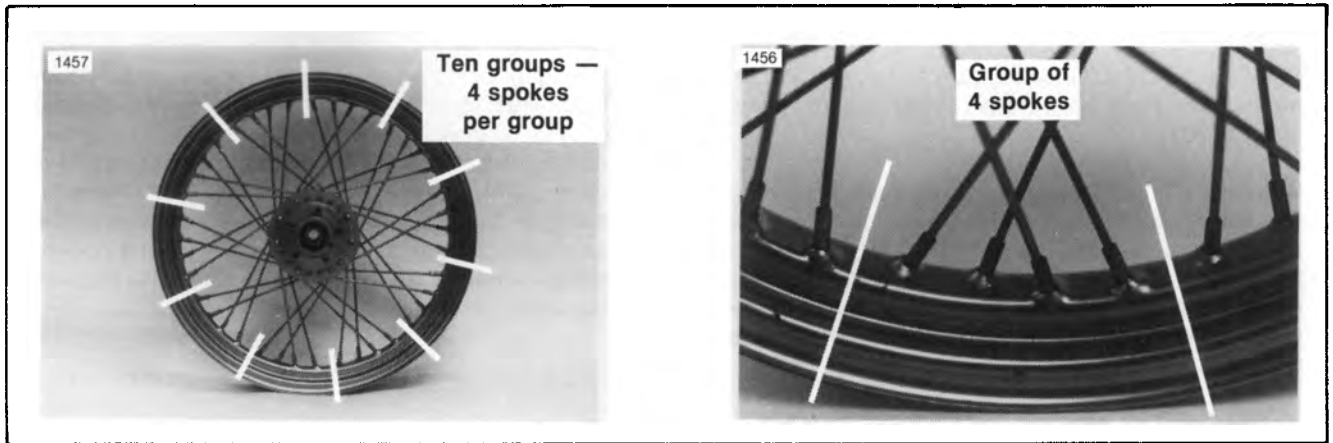

Figure 2-18. Grouping the Spokes
7. See Figure 2-18. The rim is divided into ten groups of spoke holes, four holes to a group. Each group has two holes on the left and two holes on the right, angled inward towards each other. Only one hole in each group will be angled toward the bottom flange inner spoke (long-head). Lace all bottom flange inner spokes into these holes. Secure each spoke with a nipple screwed on the end about 3 turns.
6. See Figure 2-18. The rim is divided into ten groups of spoke holes, four holes to a group. Each group has two holes on the left and two holes on the right, angled inward towards each other. Only one hole in each group will be angled toward the bottom flange inner spoke (long-head). Lace all bottom flange inner spokes into these holes. Secure each spoke with a nipple screwed on the end about 3 turns.